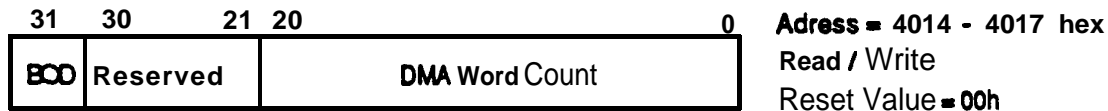

Figure 3.22 Channel 1 DMA Transfer Length Count Register
This register contains the number of words contained in the contiguous block of memory to be transferred via DMA. This register, like the address register, must be initialized before permission is given to the Eddy module to start the transfer. Setting the Most Significant Bit to One (1) will cause the present byte ordering to be overridden. Writing to this register while a DMA is pending or is in progress will produce unpredictable results. This register is shown in Figure 3.22.